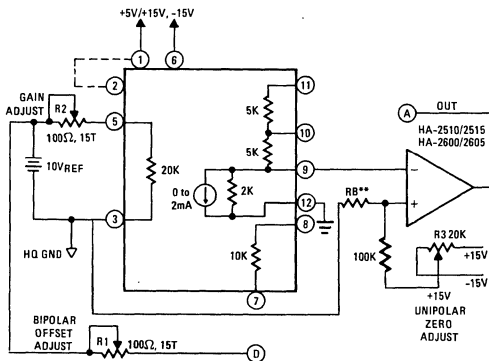

Figure 2
**CONNECTIONS** – Using an external resistive load, the output voltage should not exceed  $\pm 1V$  to maintain specified accuracy. For higher output voltages, accuracy can be maintained by using an external op amp and the internal span resistors as shown in Figure 2 and defined in Table 1 for unipolar and bipolar modes.
(See Figure 2)
The input reference resistor (20K nominal) and bipolar offset resistors shown in Figure 2 are both intentionally set low by  $50\Omega$  to all the user to externally trim-out initial errors to a very high degree of precision. The adjustments are made in the voltage output mode using an external op amp as current-to-voltage converter and the HI-562A internal scaling resistors as feedback elements for optimum accuracy and temperature coefficient. For best accuracy over temperature, select an op amp that has good front-end temperature coefficients such as the HA-2600/2605 with offset voltage and offset current tempco's of  $5\mu V/^\circ C$  in  $1nA/^\circ C$ , respectively. For high speed voltage mode applications where fast settling is required, the HA-2510/2515 is recommended for better than  $1.5\mu s$  settling to 0.01%. Using either one, potentiometer  $R_3$  conveniently nulls unipolar offset plus op amp offset in one operation (for HA-2510/2515 and HA-2600/2605 use  $R_3 = 20K$  and  $100K$ , respectively). For bipolar mode operation,  $R_3$  should be used to null op amp offset to optimize its tempco (i.e., short 9 to A and adjust  $R_3$  for zero before calibrating in bipolar mode). The gain and bipolar offset adjustment range using  $100\Omega$  potentiometers is  $\pm 12LSB$  and  $\pm 25LSB$  respectively. If desired, the potentiometers can be replaced with fixed  $50\Omega$  (1%) resistors resulting in an initial gain and bipolar offset accuracy of typically  $\pm 1/2LSB$ .